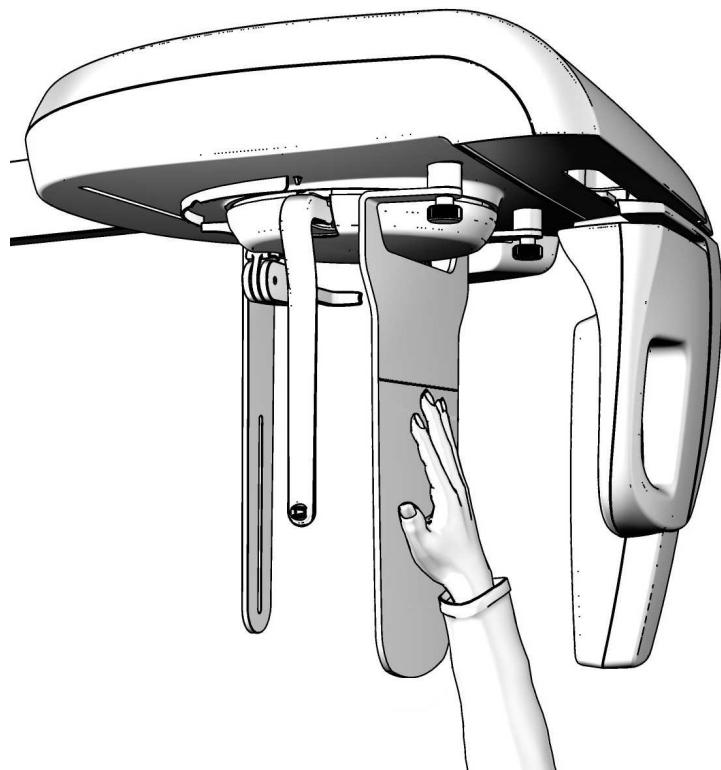

Figure 21
The image format set in order to carry out this examination is 18x22 Symmetric, not adjustable; it is therefore necessary to position the auricular rods and the nose-rest as for the cephalometric Antero-Posterior examination, so that these elements do not interfere with the X-ray trajectory. Refer to Figure 21.
- 4.** Position the patient's hand on the positioning support (Figure 21), so that the hand results between the sensor and the plate itself. The support leads the operator to place the body part in the centre of the irradiated area. The horizontal reference line should help the vertical adjustment of the hand.